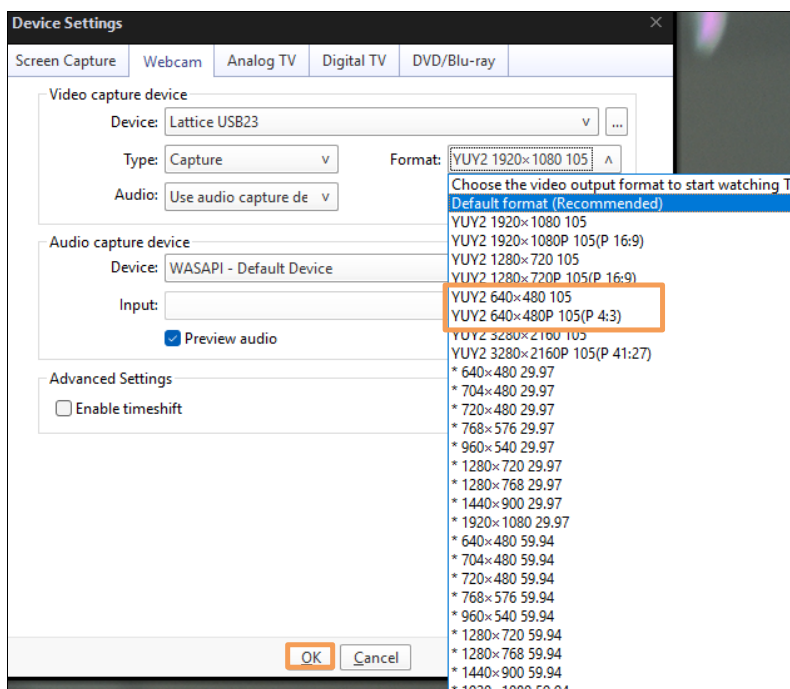

Figure 7.10. 480p Selection in PotPlayer
3. In the Format drop-down menu shown in Figure 7.10, select the YUY2 640x480 option. Then click **OK**.